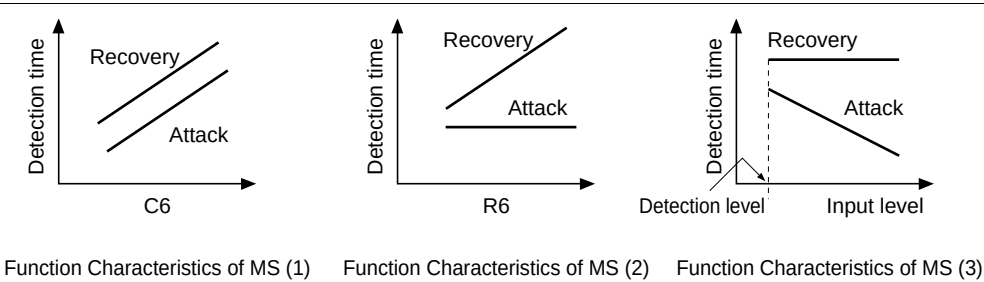

Figure 4 Function Characteristic of MS
Figure 4 (1) generally shows that detection time is in proportion to value of capacitor C16. But, with Attack*¹ and Recovery*² the detection time differs exceptionally.
Like the figure 4 (2), Recovery time is variably possible by value of resistor R6. But Attack time gets about fixed value. Attack time has dependence by input level. When a large signal is inputted, Attack time is short tendency.